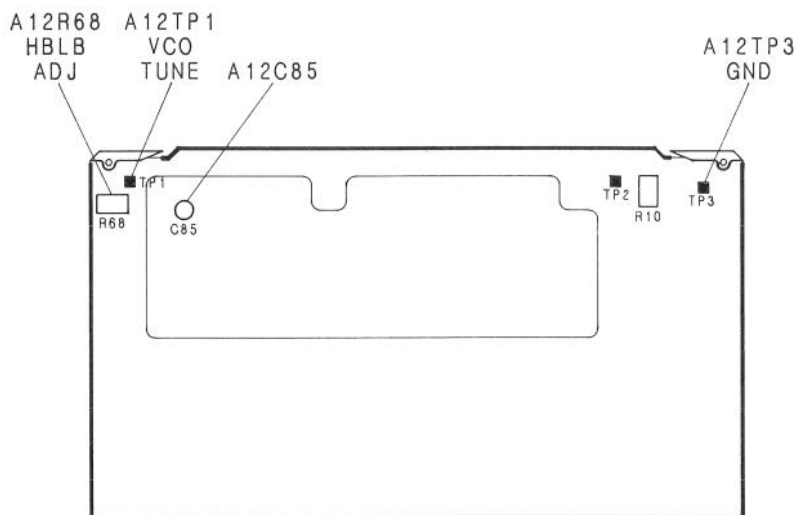

Figure 11. A12 Reference Assembly Adjustment Locations.
2. Connect the oscilloscope to A12TP1 (VCO TUNE) and ground the probe on A12TP3 (GND) (see Figure 11). Set the oscilloscope to 0.1V/division and about 0.05 usec/division. The time setting is not crucial; you need not trigger on the actual waveform but merely center the trace. The oscilloscope should display the trace at 0.0 ± 2.0 Vdc.
7. Set the HP 8753A to generate 10 MHz CW and adjust A12C85 for an oscilloscope reading of 0.0 ± 0.25 Vdc. Set the HP 8753A to generate 20 MHz CW and adjust A12R68, HBLB ADJ, for an oscilloscope reading of 0.30 ± 0.05 Vdc **higher** than the previous reading. Refer to Figure 11 as required.
15. Repeat steps 10 through 12. Adjust A12C85 (see Figure 11) to position the left side of the trace to 0 ± 125 mV. Then adjust A12R68 to position the right side of the trace 125 to 175 mV **higher** than the left side. Turn off the instrument, remove the extender board and reinstall the A12 reference board. Replace the top cover.